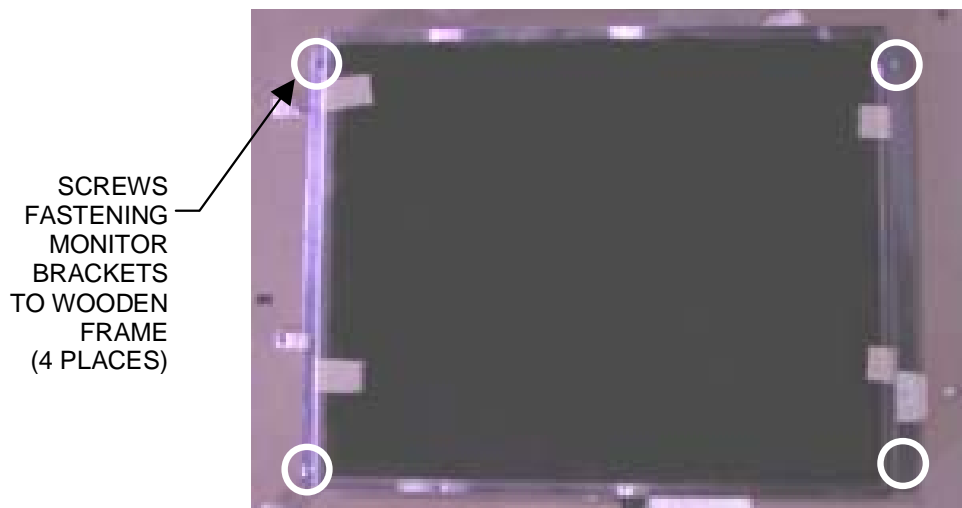

FIGURE 4 - FORESEESON MONITOR (WITH BEZEL REMOVED)
1. Line up the monitor's mounting brackets over the corresponding holes on the wooden frame and fasten with the 4 screws. If necessary, rotate the cable clips that are alongside the monitor (they may be in the way of the brackets). See Figure 4.